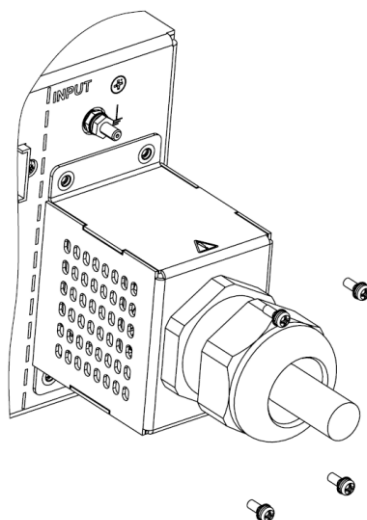

Figure 7-13: Fixing the Strain Relief Bracket
9. Fix the strain relief bracket assembly to the rear panel with four SEMS screws as shown in **Figure 7-13** using a tightening torque of 4.7–5.7 Lbf-inch (0.53–0.64Nm).